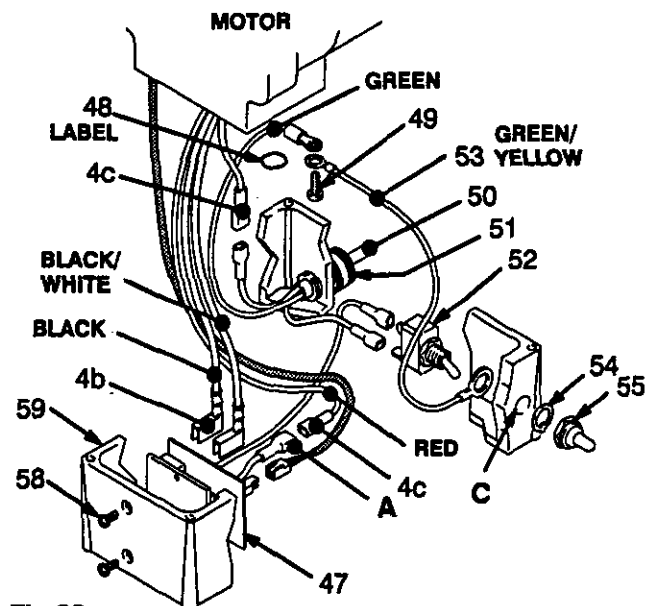

Fig 28
1. Remove the junction box screws (56) and lower the junction box (59). See Fig 28.
2. Disconnect the motor wires (4b) and the 3-wire connector (A) from the motor start board (47). Observe where connections are made. See Fig 28.
3. Remove the screws (58) and motor start board (47). Transfer the white thermal paste from the old board to the new board. See Fig 28.
2. Disconnect the power supply cord leads, including the green wire to the grounding screw (49). See Fig 28.
3. Loosen the strain relief bushing (51). Remove the power supply cord (50).
4. Install the new cord (50) in the reverse order of disassembly.
2. Remove the nut and rubber boot (55).
3. Disconnect the black wires from the ON/OFF switch (52) and remove the switch. See Fig 28.
4. Place the ring terminal of the ground wire (53) over the barrel of the new switch. Install the switch so the internal tab of the anti-rotation ring (54) engages with the vertical groove in the threads of the switch, and the external tab engages with the blind hole (C) of the junction box.
5. Powder the inside of the rubber boot (55) with talcum, then shake the excess out of the boot. Install the nut and rubber boot and tighten.